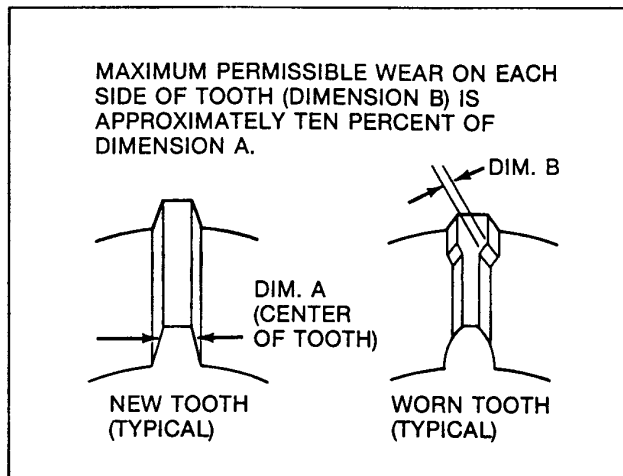

Figure 10. Gear Teeth Wear Allowances
Press turbine shaft (22) through turbine housing (19) as shown in figure 10. Remove bearing spacer from turbine shaft.